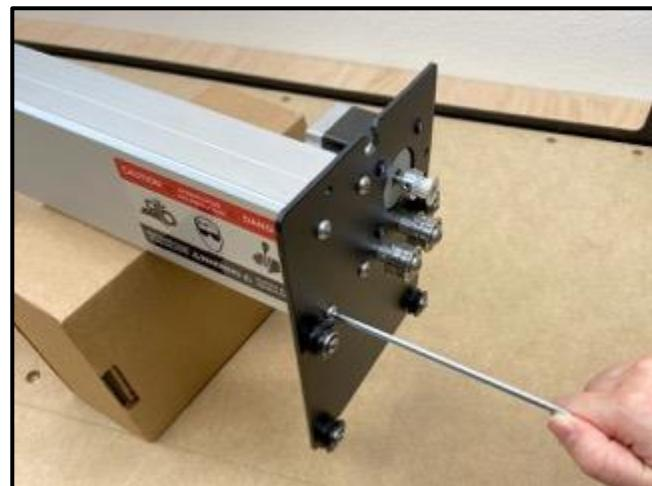

Figure 3-20
- Use the 4mm hex key and four (4) M6x12mm button head cap screws to attach the Y2-carriage to the right end of the X-rail. See *Figure 3-20*.
When properly attached, the motor body will be to the inside and behind the X-rail. The V-wheels, idlers, and motor pulley will be facing out as shown in *Figure 3-20*.